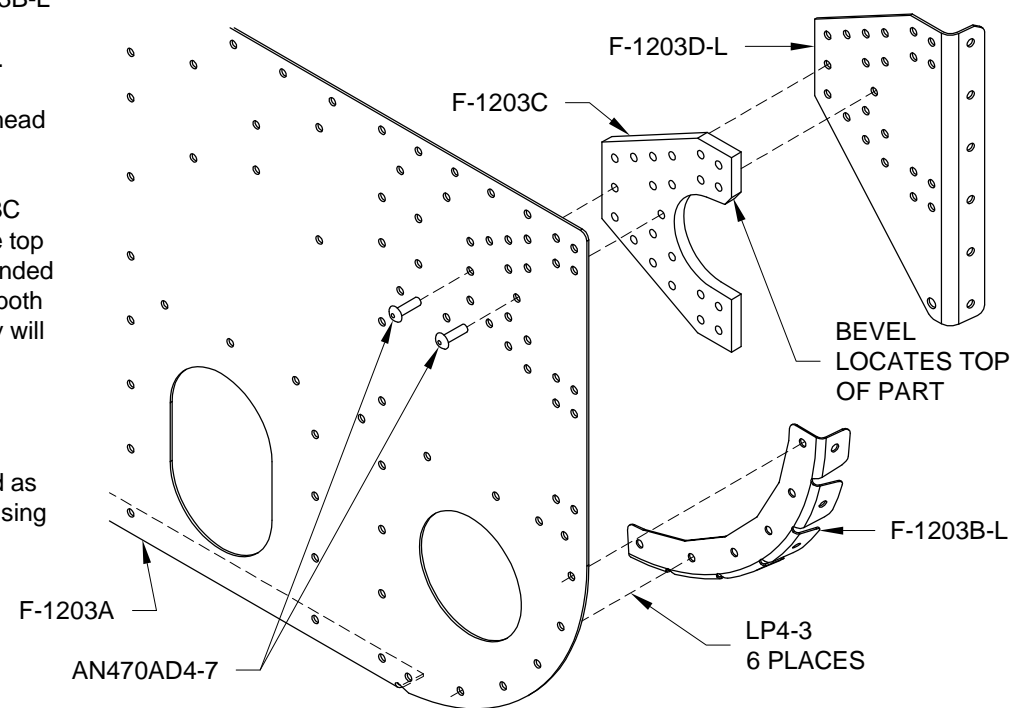

FIGURE 5: RIVETING THE F-1203A BULKHEAD
Step 8: As shown in Figure 5, rivet the F-1203B-L Bulkhead Flange to the left, aft side of the F-1203A Bulkhead using the rivets called out.
Step 9: File the curved recess of both F-1203C Stub Spar Receptacles (the bevel locates the top of the part, see Figure 5) to closely fit the rounded mating ends of the Stub Spar Assemblies of both wings. Once filed, mark the parts so that they will be assembled on the side they were fitted to.
Step 10: Cleco the F-1203C Stub Spar Receptacle and the F-1203D-L Stub Spar Receptacle Support to the F-1203A Bulkhead as shown in Figure 5. Rivet the parts together using the two rivets called-out. Final-Drill #30 any holes too tight to accept a rivet.